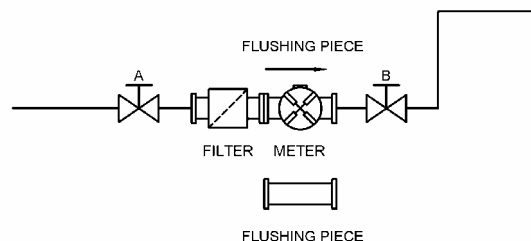

Figure 13 Flowmeter system without bypass
1. Close valves A and B (Figure 13).